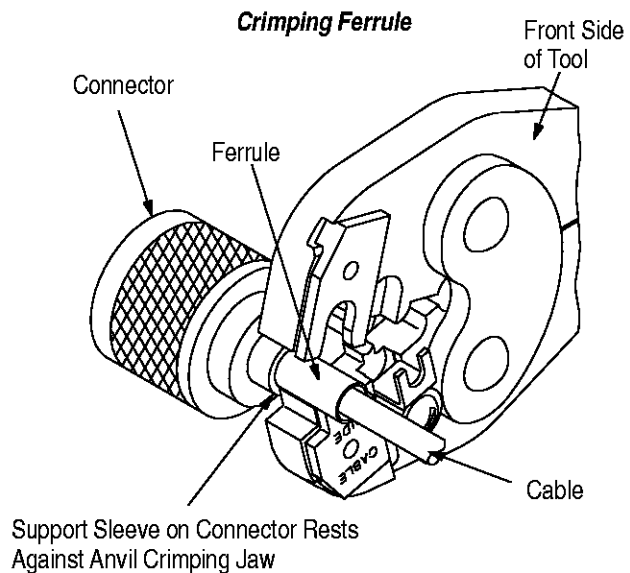

Figure 3
2. Center ferrule in the braid/braid gap crimping chamber on the anvil crimping jaw. Note the "CABLE SIDE" marking on the tool — the cable must extend from this side of the tool. The support sleeve on connector must rest against crimping jaw. See Figure 3.